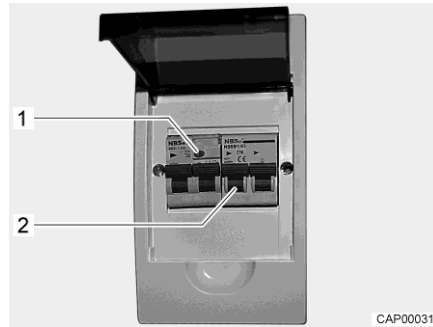

Fig. 74 230 V fuse box with safety cut-out and FI-switch
A fault current protection switch (FI-switch) in the fuse box protects the complete vehicle from fault current (0.03 A). A downstream safety cut-out (10 A) (Fig. 74,2) secures the 230 V power supply.
- When the vehicle is connected to the 230 V power supply, press the test button (Fig. 74,1). The fault current protection switch must trip.